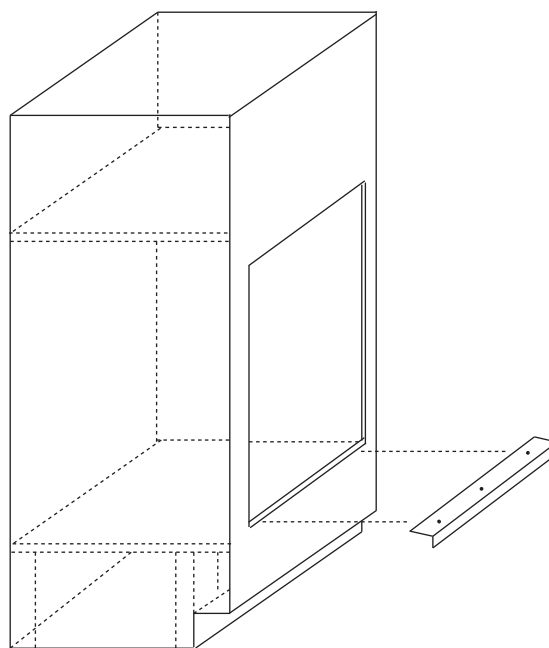

Figure 1.5: Base Slide Plate Installation
5. If provided, install the base slide plate (Figure 1.5, below). This plate will make installation and future servicing of the oven easier.